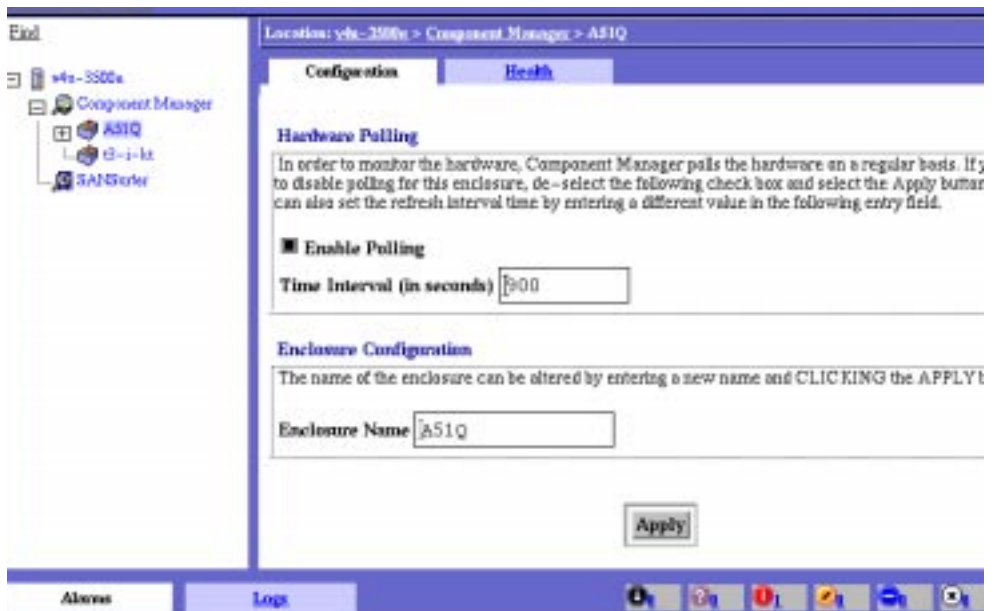

FIGURE 4-6 Sun StorEdge A5x00 Hardware Polling and Naming Window
3. **Change the name (see FIGURE 4-6).**